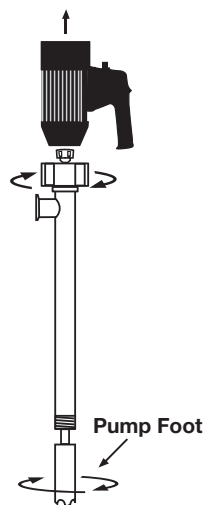

Figure 3
2. For a more thorough cleaning remove the motor from the pump tube by loosening the connection nut (see Figure 3).
3. Remove the pump foot by turning clockwise (see Figure 3).